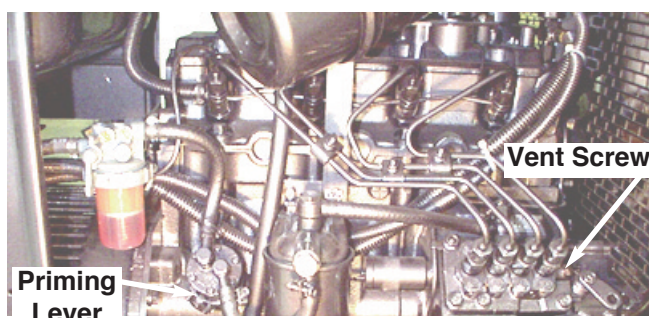

FIGURE D.1
1. Loosen by two or three turns, the vent screw (Figure D.1) on the fuel inlet connection.